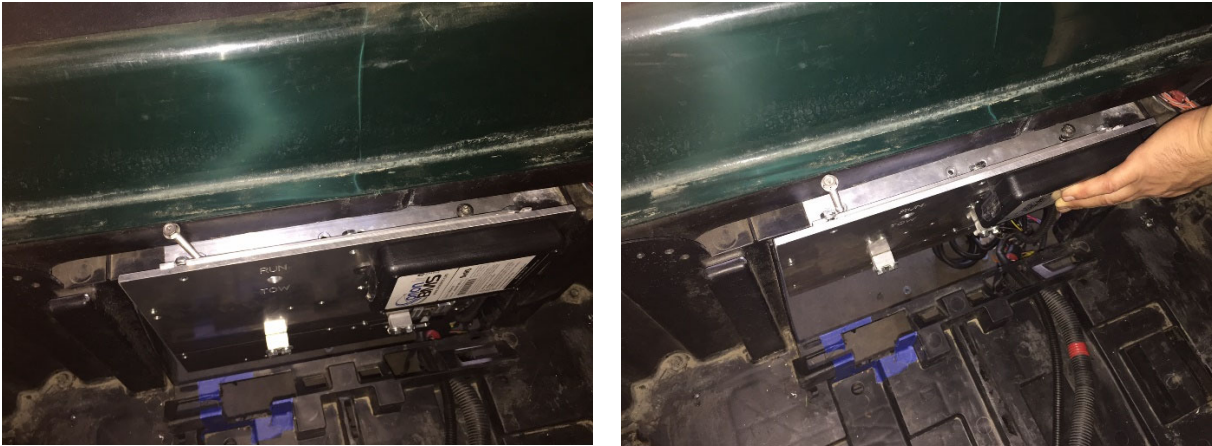

Fig. 17 – Fully assembled controller plate installed
5. Install the controller plate into the cart using the original black screw and a self-tapping screw. Keep the screws loose so that the plate can be pushed outwardly towards the rear of the vehicle when needed. (Fig. 17)